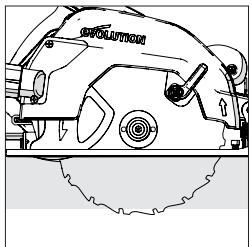

Fig. 12
- In most cases the cutting depth should be set at the thickness of the material to be cut plus the depth of half of a saw tooth (tip of the tooth to the tooth root). (**Fig. 12**)